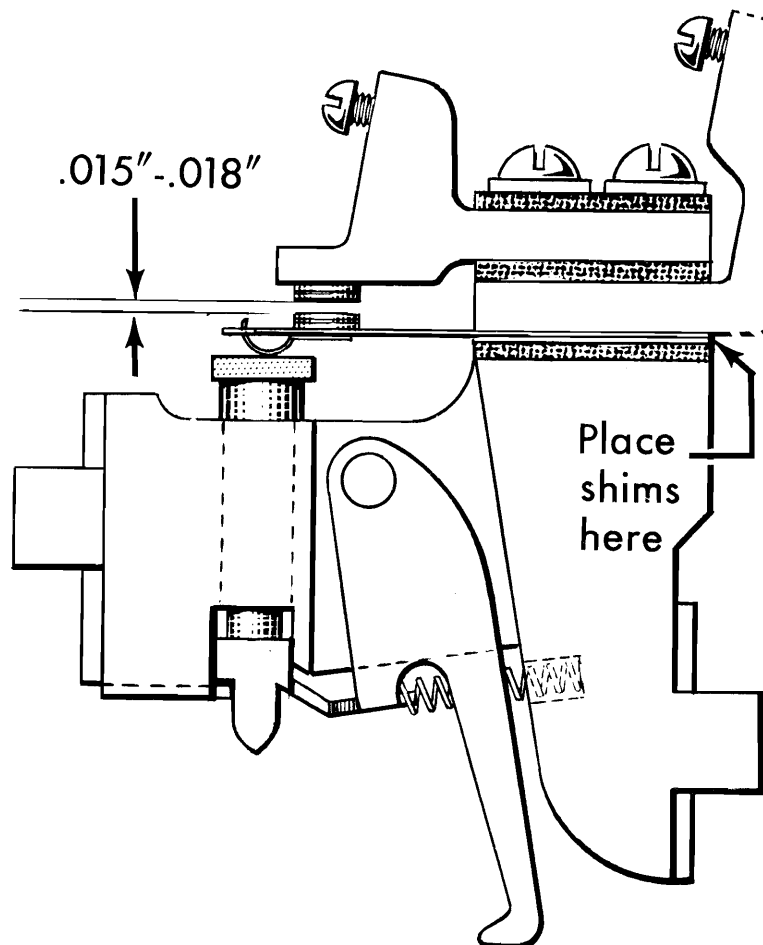

Figure 12. Latching Plunger Circuit Breaker, Adjustment 3
3. Place shims between the lower contact terminal block and the contact strap (Figure 12) to provide a .015" to .018" air gap between the contact points.